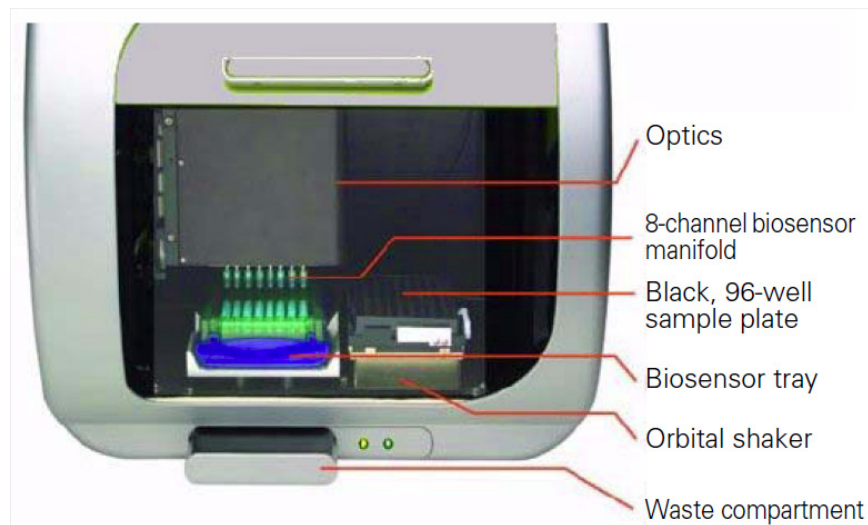

FIGURE 3.2. OCTET QK^e AND OCTET QK SYSTEMS, DOOR OPEN.
- 2.6. Load the entire ensemble, including the blue biosensor tray holder on to the biosensor tray location in the Octet system (Fig 3.2).
3.6. Load the sample plate in the sample plate location on the plate stage of the Octet system (Figure 3.2).